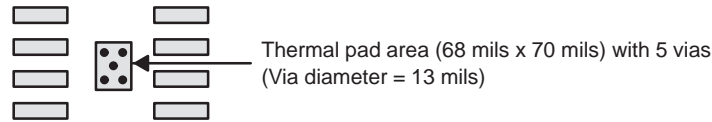

Figure 26. PowerPAD™ PCB Etch and Via Pattern
1. Prepare the PCB with a top side etch pattern as shown in Figure 26. There should be etch for the leads as well as etch for the thermal pad.